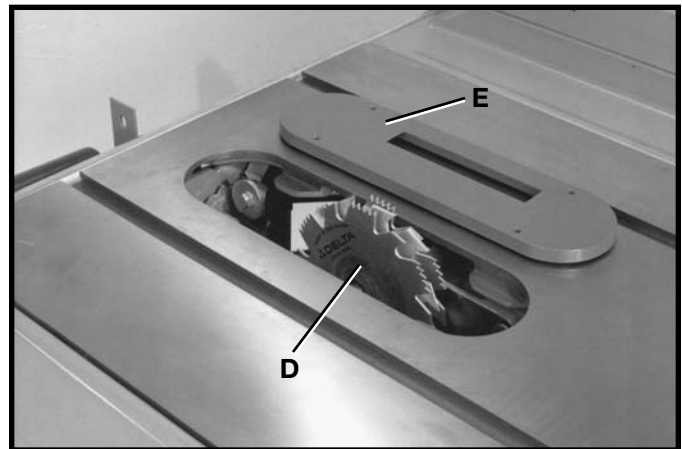
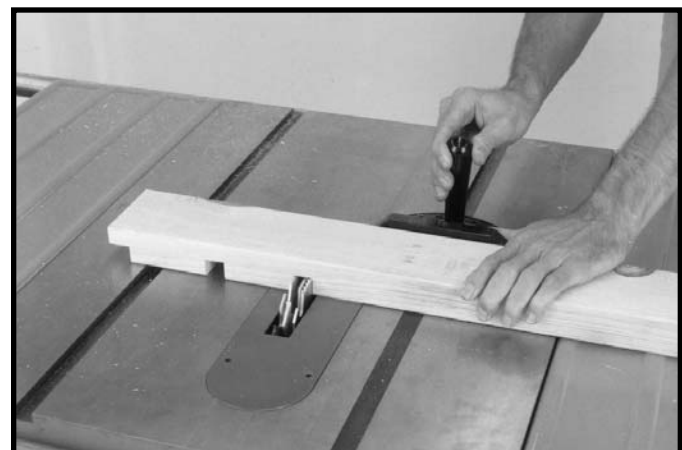

Fig. 71
Fig. 72
The dado head set (D) Fig. 71, is assembled to the saw arbor in the same manner as the saw blade. The guard, splitter, and anti-kickback finger assembly cannot be used when dadoing and must be removed from the saw. In place of the guard, auxiliary jigs or fixtures and push sticks and featherboards should be used. Also, the accessory dado head table insert (E) Fig. 71, must be used in place of the standard table insert. Fig. 72, shows a typical dado operation using the miter gage as a guide.